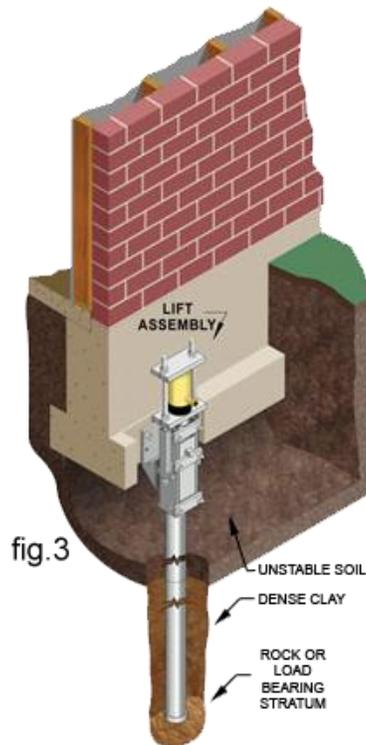

fig.3
6. Load Test: Every pier is load tested by increasing the force on the pier to insure the rock or bearing-strata will support a load greater than needed to guarantee a factor of safety. Typically an engineer will determine the load of the structure and the desired factor of safety before the load tests are performed. (fig 3)
7. Preparations for Restoration: Once all piers have been installed, load tested, and the installation data at each placement recorded; lifting head assemblies and hydraulic lifting rams are placed on the piers. The lifting cylinders are connected with one or more manifolds and operated using a hydraulic pump. (fig 3)